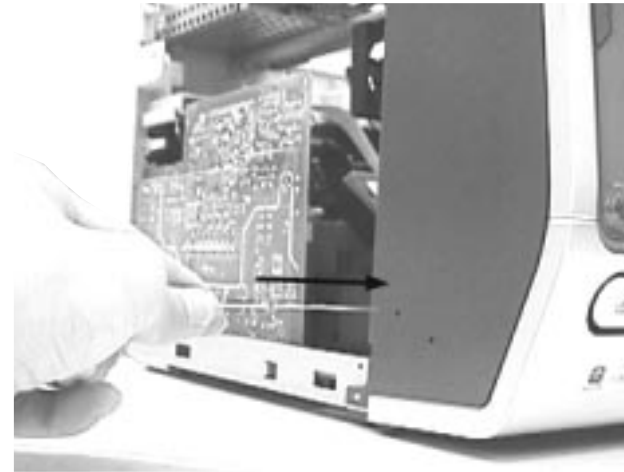

Figure 2
- 4) Place the set in the position as shown in Figure 2 and insert the paper clip or stiff wire into the hole on the Left side of the Cabinet Front (pos 101).